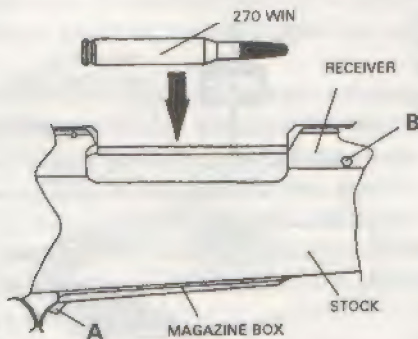

FIGURE 3
3. Press magazine floorplate catch (Fig.3, pos. A) and open the floorplate. During this procedure drop the cartridges from the internal magazine in to your hand to prevent any damage to them.